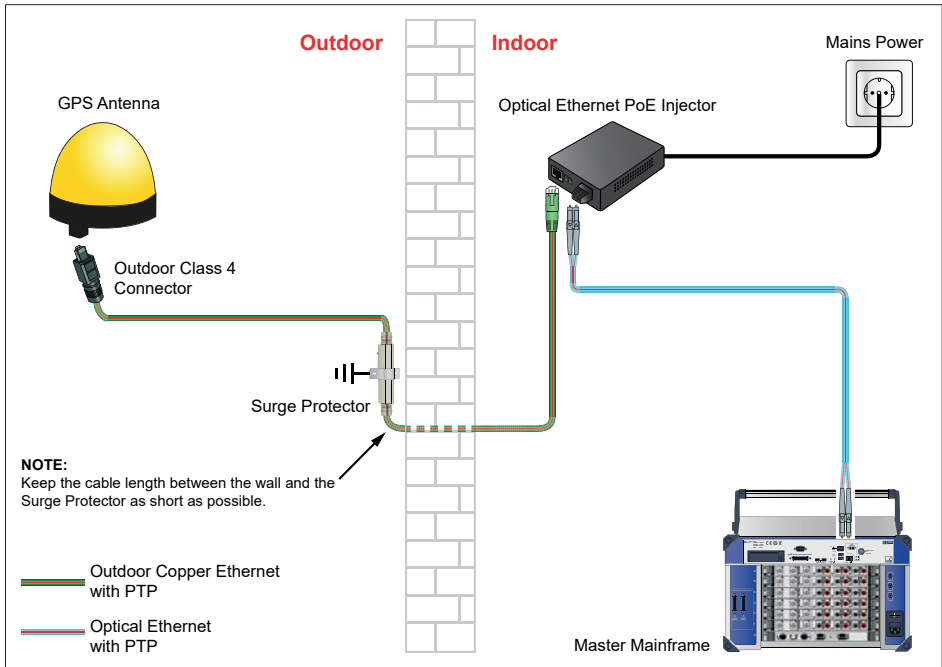

Fig. 14.12 Block diagram GPS time synchronization
6. After finishing these steps the G002B option is fully installed and operational. Please refer to Fig. 14.12 for an overview of the installed option.